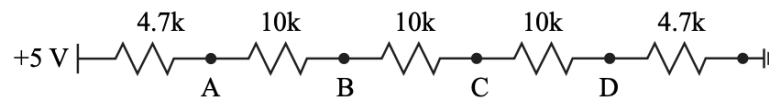

Figure 4.5: Resistor ladder example
1. Using the circuit in Figure 4.5, calculate the ideal voltages for nodes A, B, C, and D. Table the values for future comparison.
2. Construct the circuit in Figure 4.5 and measure the actual voltages using the oscilloscope. Table the values.